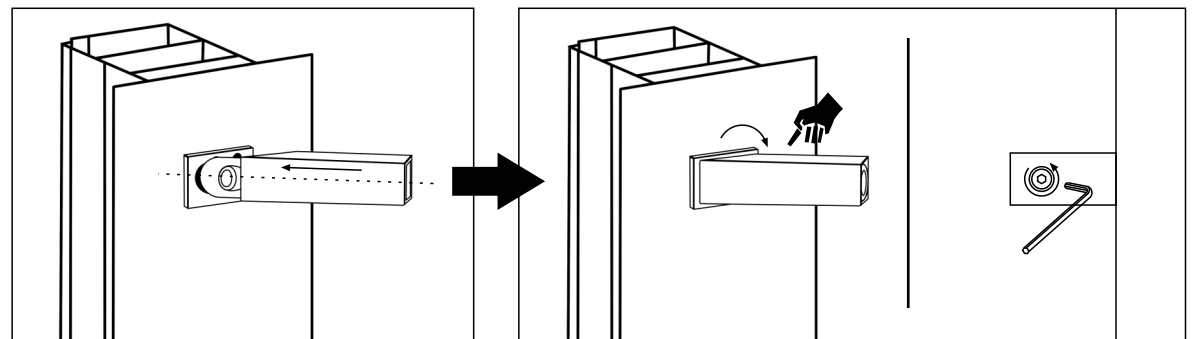

Figure 39
4. Put the decorative plates on the bracket holders and start the screws (figure 39).